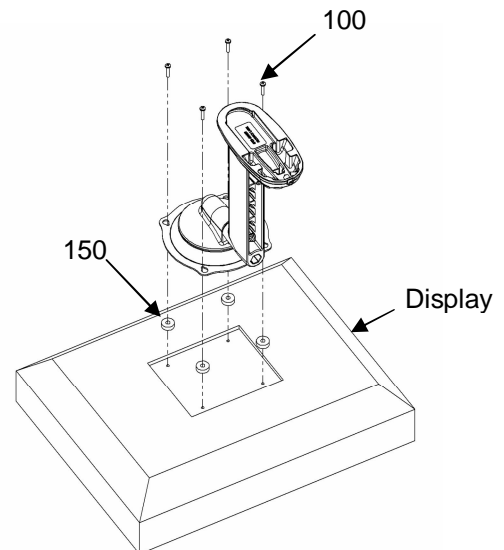

Figure 7. Recess Mount Centris to Display
2. Select four screws M4 x 20mm screws (100) and four spacers (150) from parts bag.
3. Place four spacers (150) over mounting holes on back of display (see Figure 7).
5. Install four screws M4 x 20mm screws (100) to attach Centris bracket to display (see Figure 7).